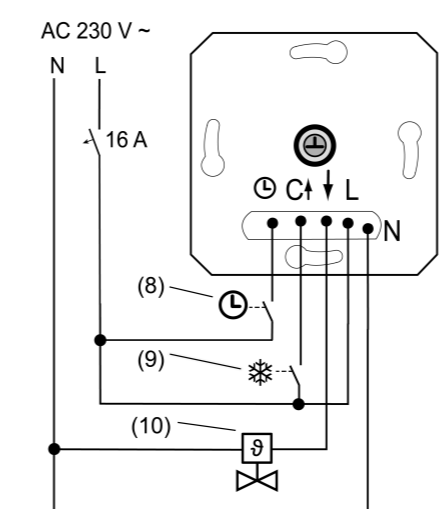
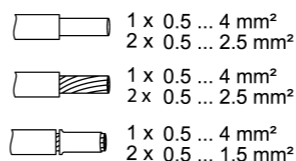

Figure 2: Connection example of the insert
Figure 3: Clampable conductor cross-section
- Connect electrothermal valve drive (10) to insert (1) according to connection diagram (Figure 2). Observe the conductor cross-sections (Figure 3).
- Optionally, connect the ECO operation input \odot via a switching contact of a central clock (8). If 230 V is applied to the input, the setpoint temperature is reduced by 4 °C, exclusively in heating mode.
- Optionally, connect the cooling input **C** via a switching contact of the heating system (9). If 230 V is applied to input C, the cooling mode is active. If 230 V is switched off, the device automatically switches to heating mode. After each switchover, the LED lights up for 10 seconds in the colour of the current operating mode.